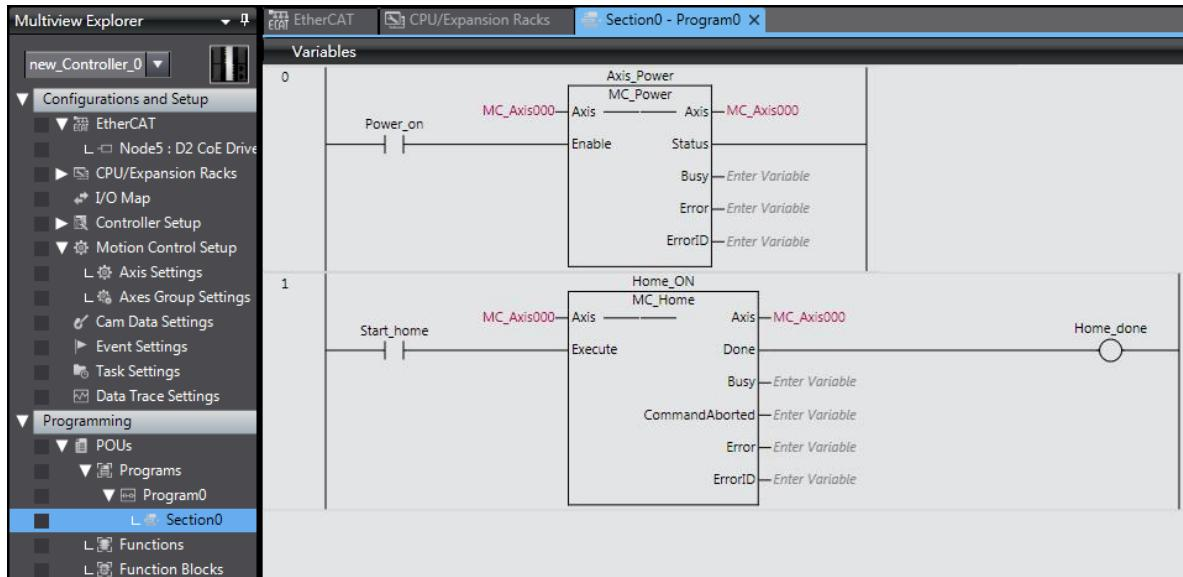

Fig. 5-49
- (7) Open “POUs” in “Programming” at the left side of Sysmac Studio main window. Select “Program0” in “Programs”. Use two function blocks of “MC\_Power” and “MC\_Home” to code a simple homing program on “Section0”, as shown in Fig. 5-49.